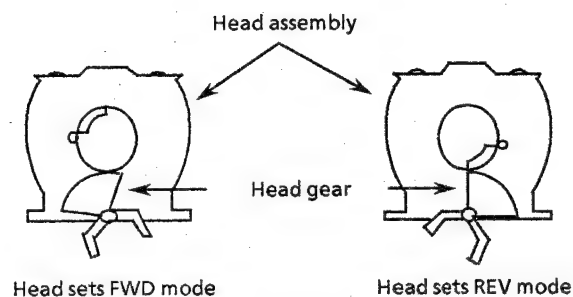

Fig. 12 Bottom view of the head assembly
* Refer to fig.12 when installing.